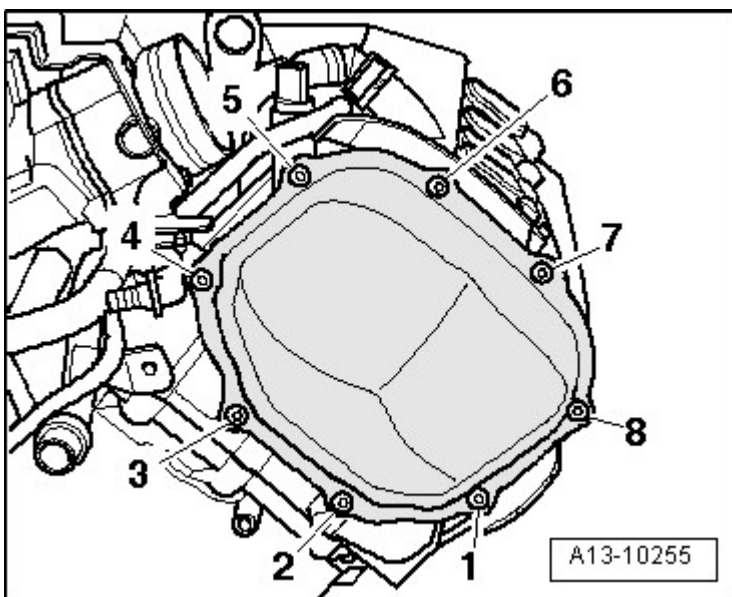

Fig. 3: Right Timing Chain Cover Bolt Tightening Sequence & Specification
- Tightening specification and sequence **Fig. 3**